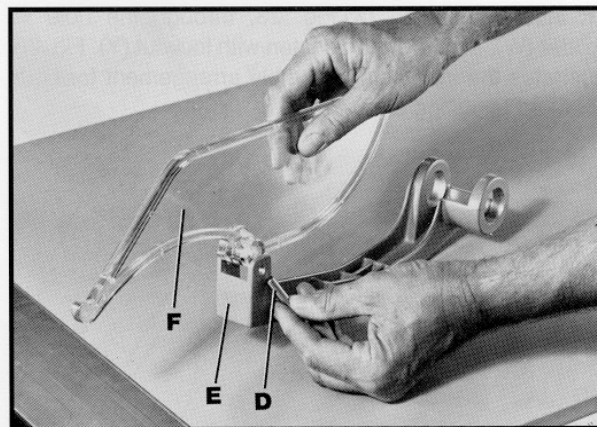

Fig. 27
14. Insert pin (D) Fig. 27, through hole in basket arm (E), through hole in plastic shield (F) and through remaining hole in basket arm.